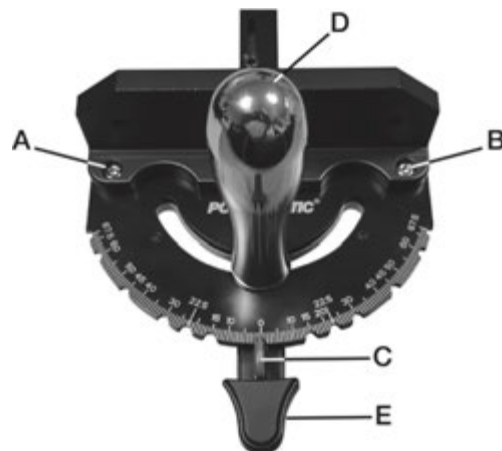

Figure 32C
2. Loosen screws A and B as shown in Figure 32C.
#### Adjusting Miter Gauge Angle for Operations (model PM1500T, refer to figure 32C):